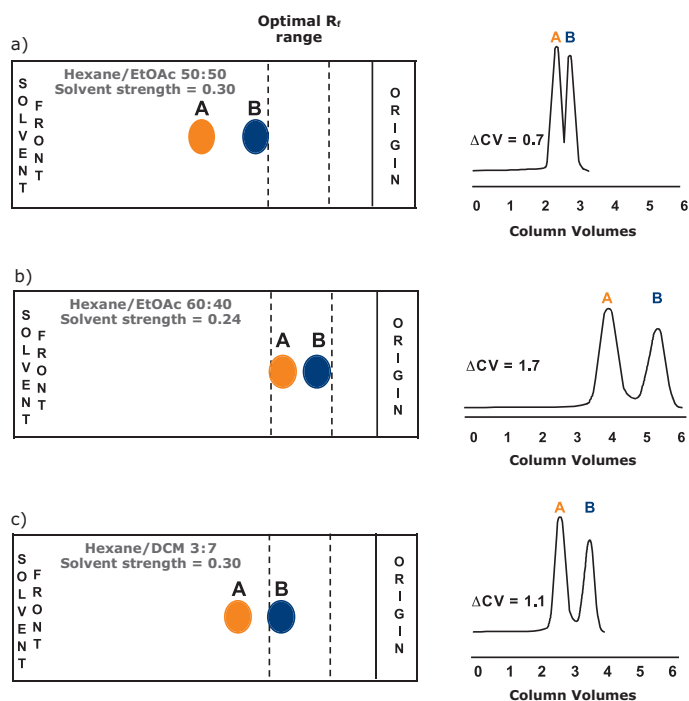

Figure 13. Examples of solvent strength on compound retention and resolution.
To bring the R_f of the compound of interest into the optimal range, reduce the amount of polar solvent in the mobile phase. As an example, in Figure 13, the results of a solvent selectivity study show a mobile phase of 50% hexane and 50% ethyl acetate (solvent strength = 0.30), providing adequate selectivity for a crude sample (Figure 13, a). The R_f for the compound of interest (B) is 0.4 (2.5 CV) and the R_f of the impurity (A) is 0.55 (1.8 CV), providing a ΔCV of 0.7. With a ΔCV this low, only a small sample amount can be flash purified before overload (resolution loss, low purity fractions) occurs. By weakening the solvent strength to 60% hexane and 40% ethyl acetate (solvent
strength 0.24) (Figure 13, b); the R_f of compound B falls to 0.2 (5 CV) and impurity A's R_f is lowered to 0.3 (3.3 CV) with a resulting ΔCV of 1.7, enabling a potential fivefold increase in sample load on a flash cartridge (Table 4).
If you find adequate component retention with a particular solvent mixture, you can prepare other solvent mixtures of similar strength but different selectivity for comparison (Figure 13, c).